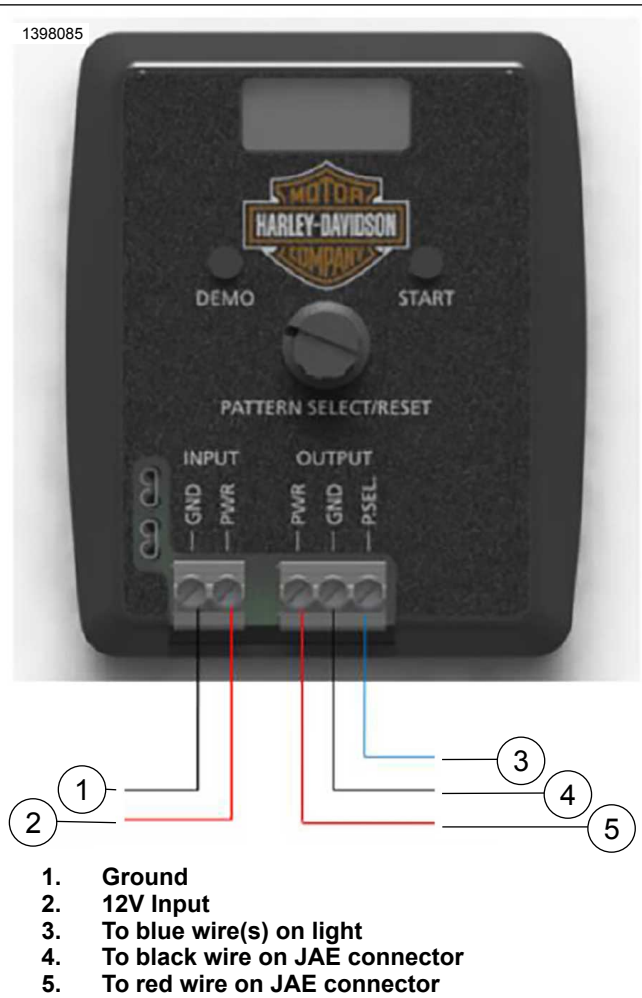

Figure 3. Pattern Programming Setup
1. See Figure 3. Connect 12V power source to PSCP.
2. See Figure 3. Connect light array to OUTPUT terminals of PSCP (requires dealer supplied wire).